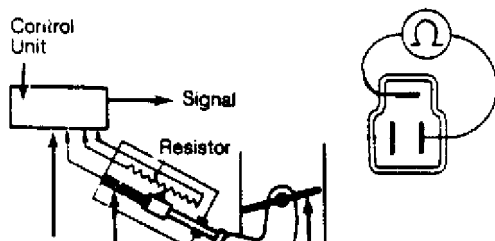

Fig. 3: Throttle Sensor Ohmmeter Connection
4) Disconnect connector for throttle sensor. Connect an ohmmeter to throttle sensor as shown in Fig. 3. Open throttle valve and observe ohmmeter reading. At idle reading should be about 1000 ohms. Wide open reading should be about 5000 ohms.